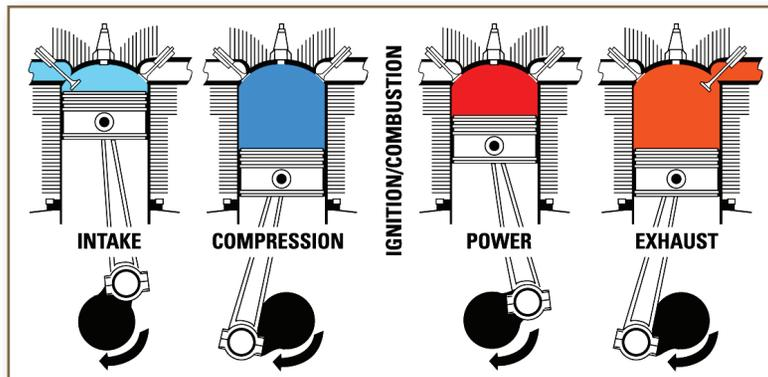

FIG. 1
**Figure 1** shows the four strokes of the four-cycle piston engine. It is the quantity of fuel and air inducted in the first stroke, or intake stroke, that determines the combustion temperature after the second stroke, the power generated in the third stroke, and the exhaust temperature for the fourth stroke.